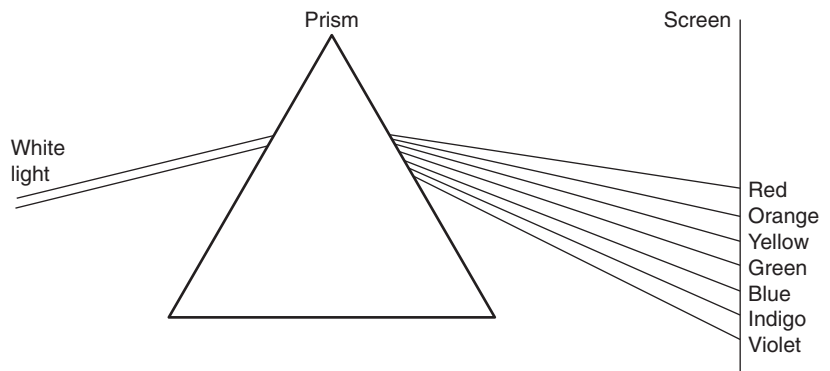

Figure 18.4 How a prism separates out the component colours of white light
The different light frequencies can be separated out from white light by the refracting action of a wedge-shaped piece of glass called a prism (Figure 18.4). A prism produces a spectrum of colours, in the following (ascending) order of light frequency: red, orange, yellow, green, blue, violet (indigo also is sometimes identified as existing between blue and violet). Light frequencies lower than red are called infrared, those higher than violet are called ultraviolet (UV), and both are invisible to the human eye.